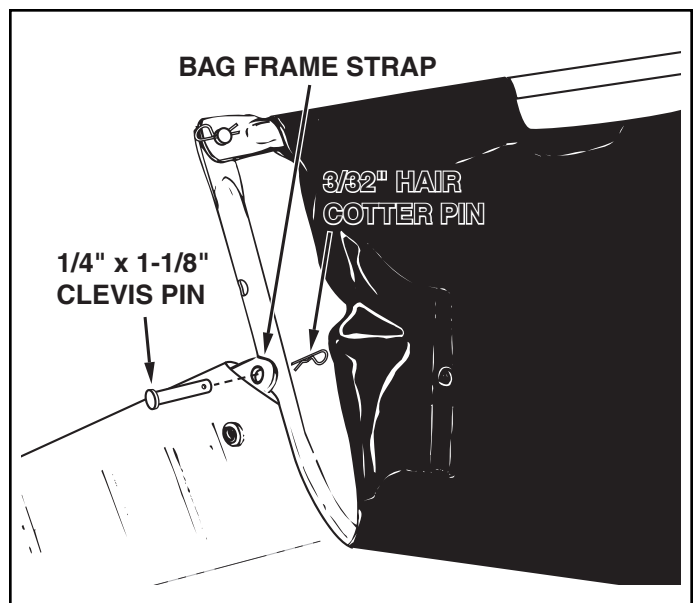

FIGURE 14
- Insert the bag frame strap into the stitched sleeve along the front edge of the bag bottom. See figure 14.
- Assemble the bag frame strap to the holes in the lower hopper tubes using two $\frac{1}{4}$ " x $1\frac{1}{8}$ " clevis pins and $\frac{3}{32}$ " hair cotter pins. See figure 14.